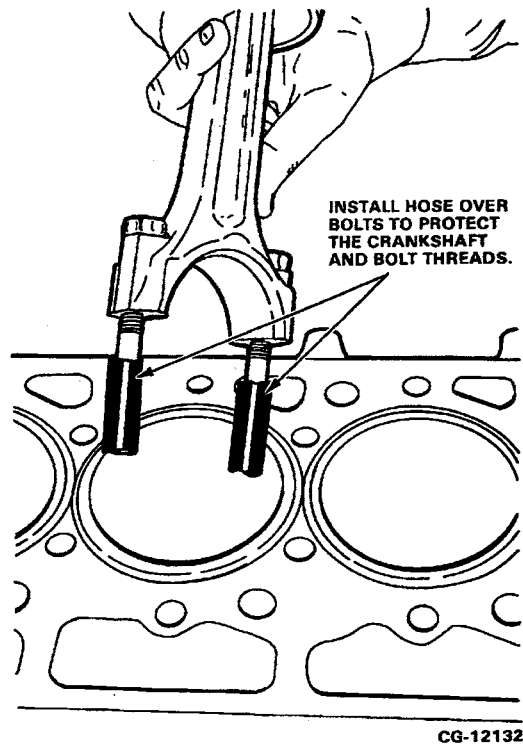

Figure 6.55. Install Protective Hose Over Bolts
4. Protect the crankshaft and rod bolt threads by inserting pieces of rubber hose over the bolt threads prior to installing the piston and rod assembly into the crankcase. Refer to Figure 6.55.